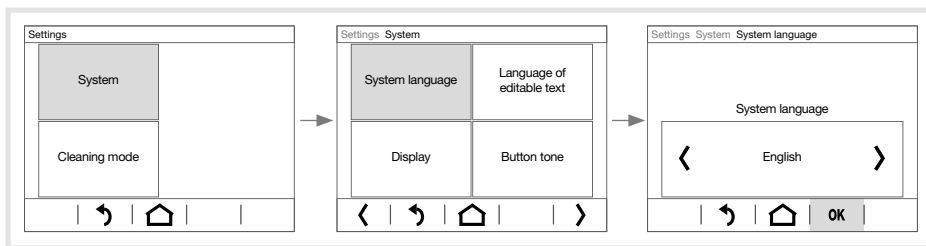

Figure 5: Example of setting the system language
The display changes to another page where you must select once again, or it changes directly to the setting of the parameter (Figure 5).
- With **-/+** decrease/increase the parameter value, with **>/<** scroll to a preset value (Figure 5) or with **[ON]** / **[OFF]** activate/deactivate the parameter (Table 1).